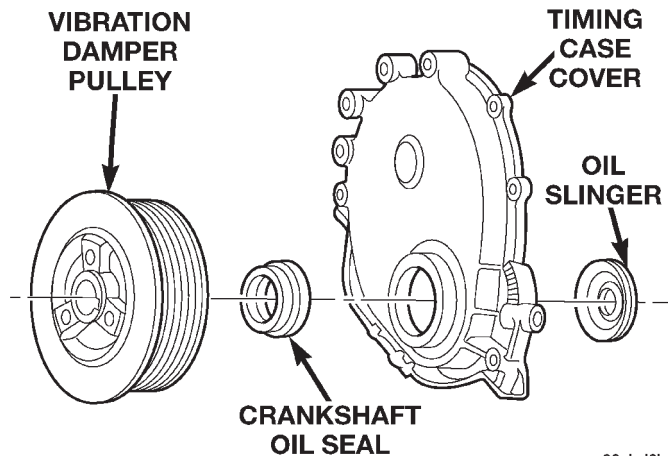

Fig. 45 Timing Case Cover Components
(9) Position thrust plate and install retaining screws. Tighten screws to 24 N·m (18 ft. lbs.).
(10) Install the camshaft sprocket bolt/cup washer. Tighten the bolt to 68 N·m (50 ft. lbs.) torque.
(11) Install the timing case cover with a replacement oil seal (Fig. 45). Refer to Timing Case Cover Installation.
(12) Install the vibration damper (Fig. 45).